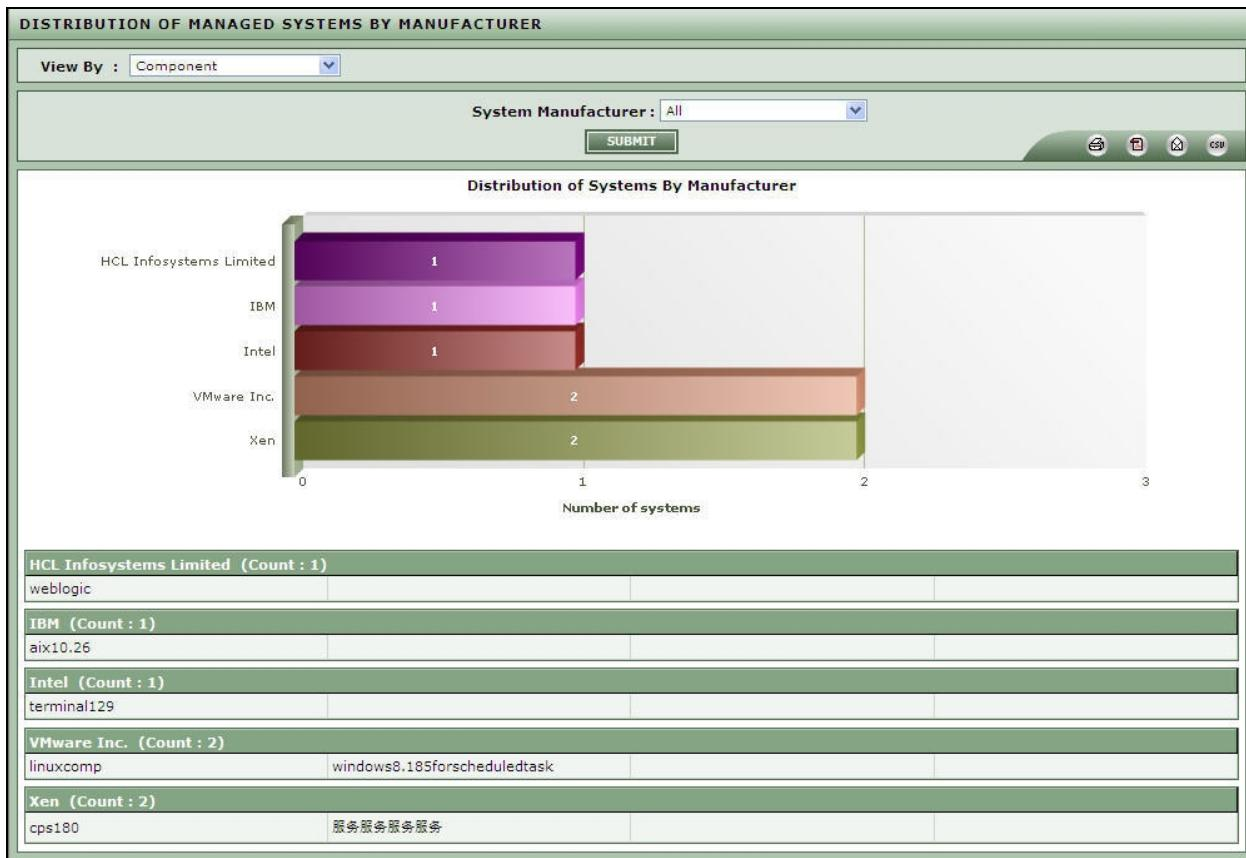

Figure 2.20: Distribution of systems across the manufacturers
1. Select **All** option from the **System Manufacturer** list box as depicted in Figure 2.20. If multiple manufacturers exist, then, the **All** option will be chosen here by default. If only a single manufacturer exists, then that manufacturer's name will be displayed here by default.